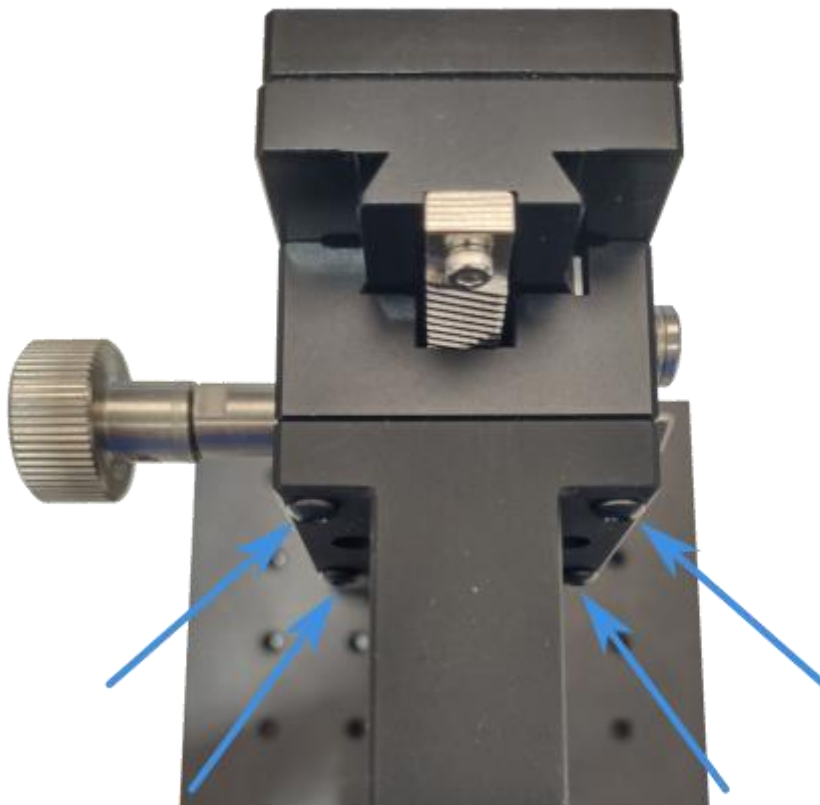

Figure 8.1. Mounting positions for attaching the Solar Simulator to the vertical stage platform.
1. **Height adjustable stage (sold separately).** The Solar Simulator lamp bracket is directly attached to the Z-stage platform, allowing manual adjustment of the lamp height. The lamp is attached to the stage using four M3 bolts as shown in **Figure 8.1**.